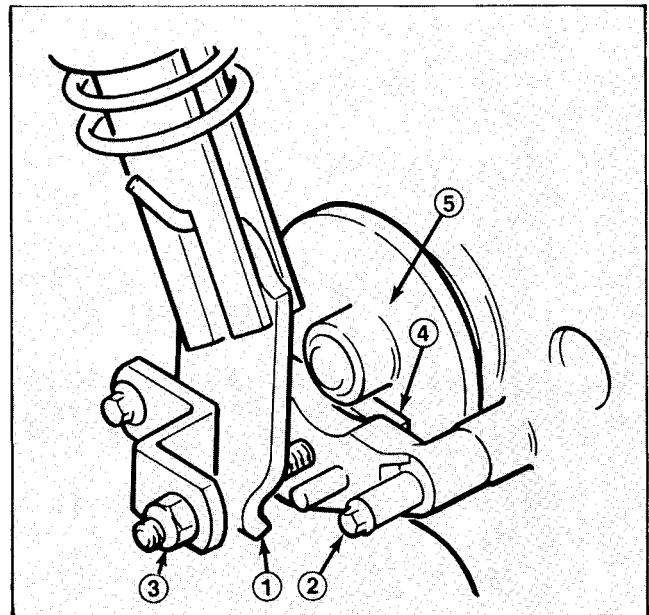

Figure 18
2. Measure distance between disc brake actuating arm and stop pin on axle brake assembly. Distance should be less than .25" (Fig. 18).
3. If distance is greater than .25", tighten locknut to decrease distance between actuating arm and stop pin (Fig. 18).
4. Check clearance between brake pads and disc with a feeler gauge. Proper clearance is approximately .010" (Fig. 18).